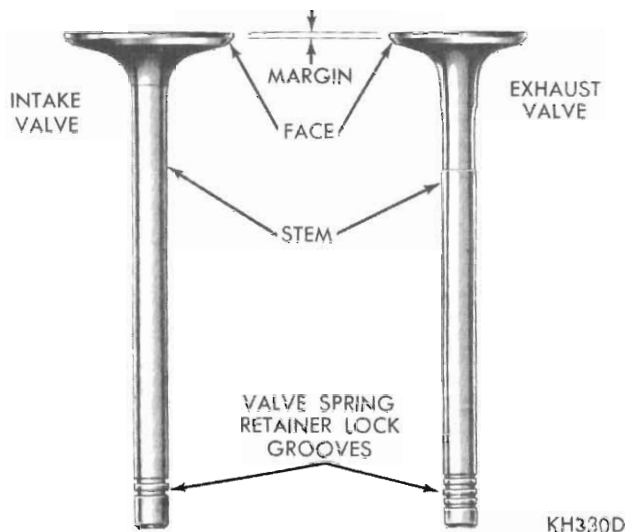

Fig. 7 - Intake and exhaust valves
(1) The intake and exhaust valve seats and intake valve face have a 45 degree angle. The exhaust valve face has a 43 degree angle.
(2) Inspect the remaining margin after the valves are refaced (Fig. 7). Valves with less than 3/64 inch margin should be discarded.
(3) When refacing valve seats, it is important that the correct size valve guide pilot be used for reseating stones. A true and complete surface must be obtained.
(4) Measure the concentricity of valve seat using dial indicator. Total run-out should not exceed .002" (total indicator reading).
(5) Check the valve seat with Prussian blue to determine where the valve contacts the seat. To do this, coat the valve seat lightly with Prussian blue then set valve in place. Oscillate the valve 1/8" with